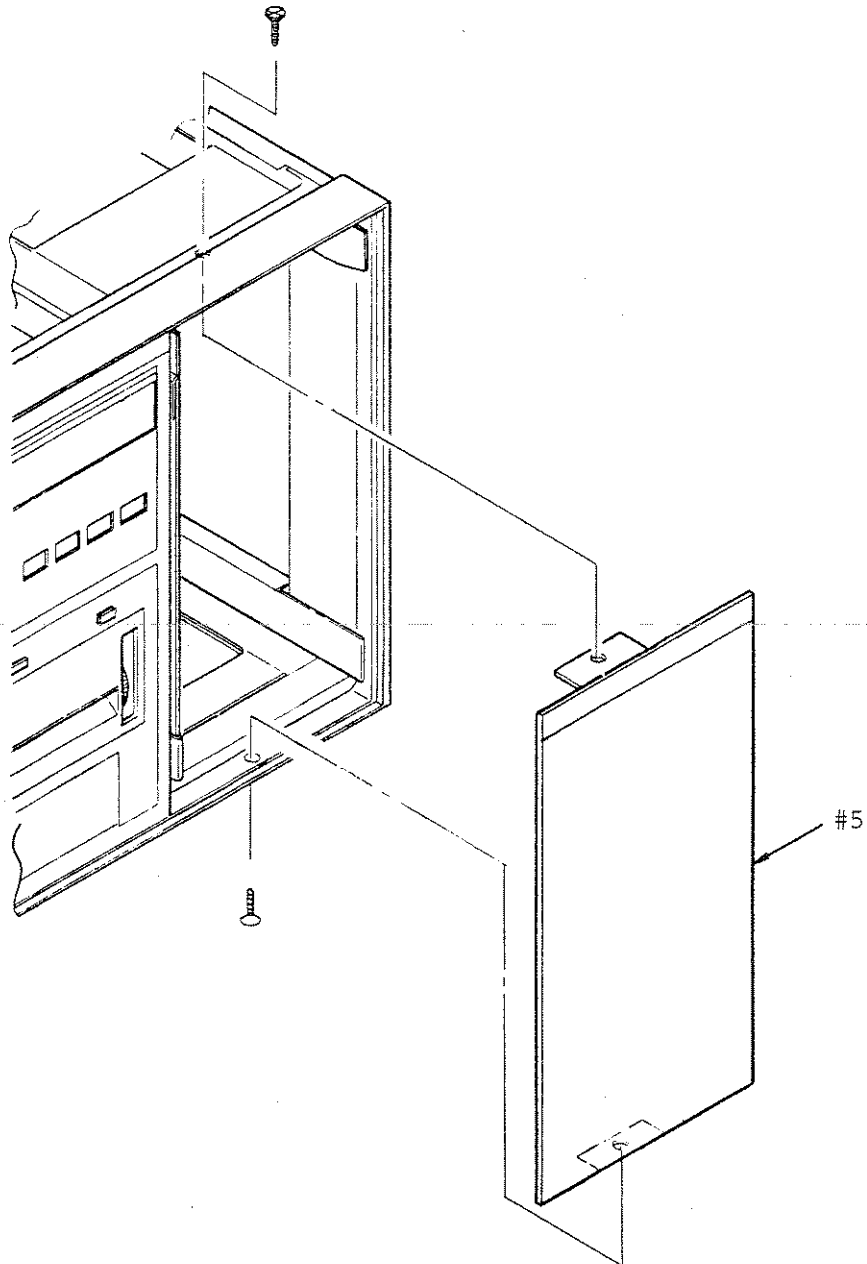
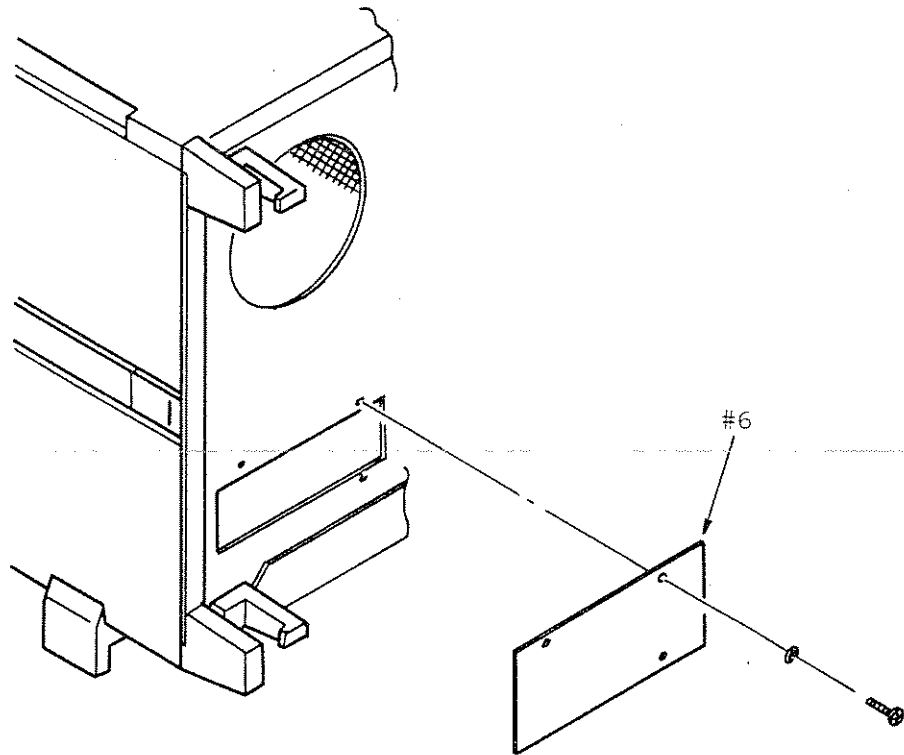

Fig. 3-4 Cover Removal
Fig. 3-5 Rear Cover Removal
1. Remove cover #5 from the housing of the ME522A transmitter and receiver, where the units are mounted, by removing the top plate and removing the screws at the top and bottom as shown in Fig. 3-4.
2. Remove rear cover #6 of the ME522A transmitter and receiver, by unscrewing the three screws as shown in Fig. 3-5.
Before setting the panel, confirm that the [PANEL LOCK] key (#6 in Fig. 3-4 and #7 in Fig. 3-5) is OFF. The panel cannot be set when it is ON.